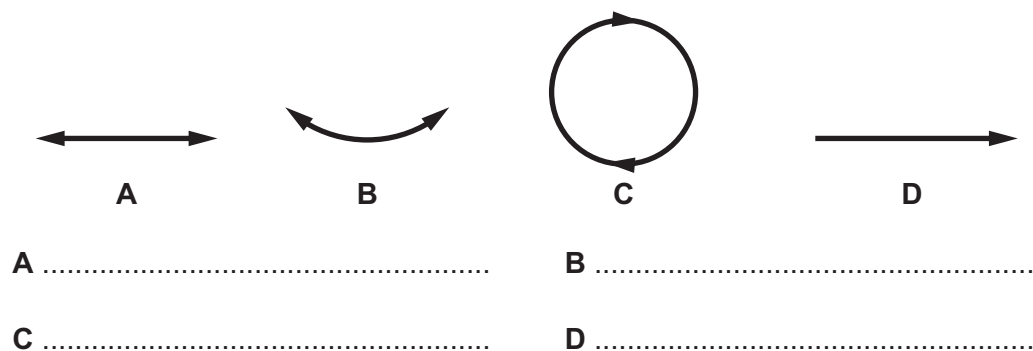

Fig. 6.1
- 6 (a) State the type of motion associated with each symbol in Fig. 6.1.